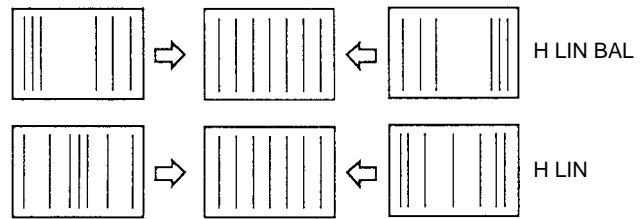

Fig. 1-9
9. Adjust the H SIZE, H LIN BAL, and H LIN data as shown in Fig. 1-9.